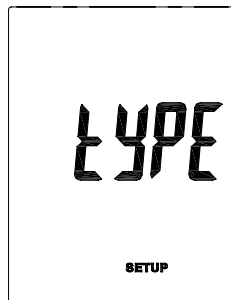

Fig. 9
1. While in Setup mode, press **▲/Unit** or **Unit/▼** button to scroll to the **Measurement Type** setup option (Fig. 9).